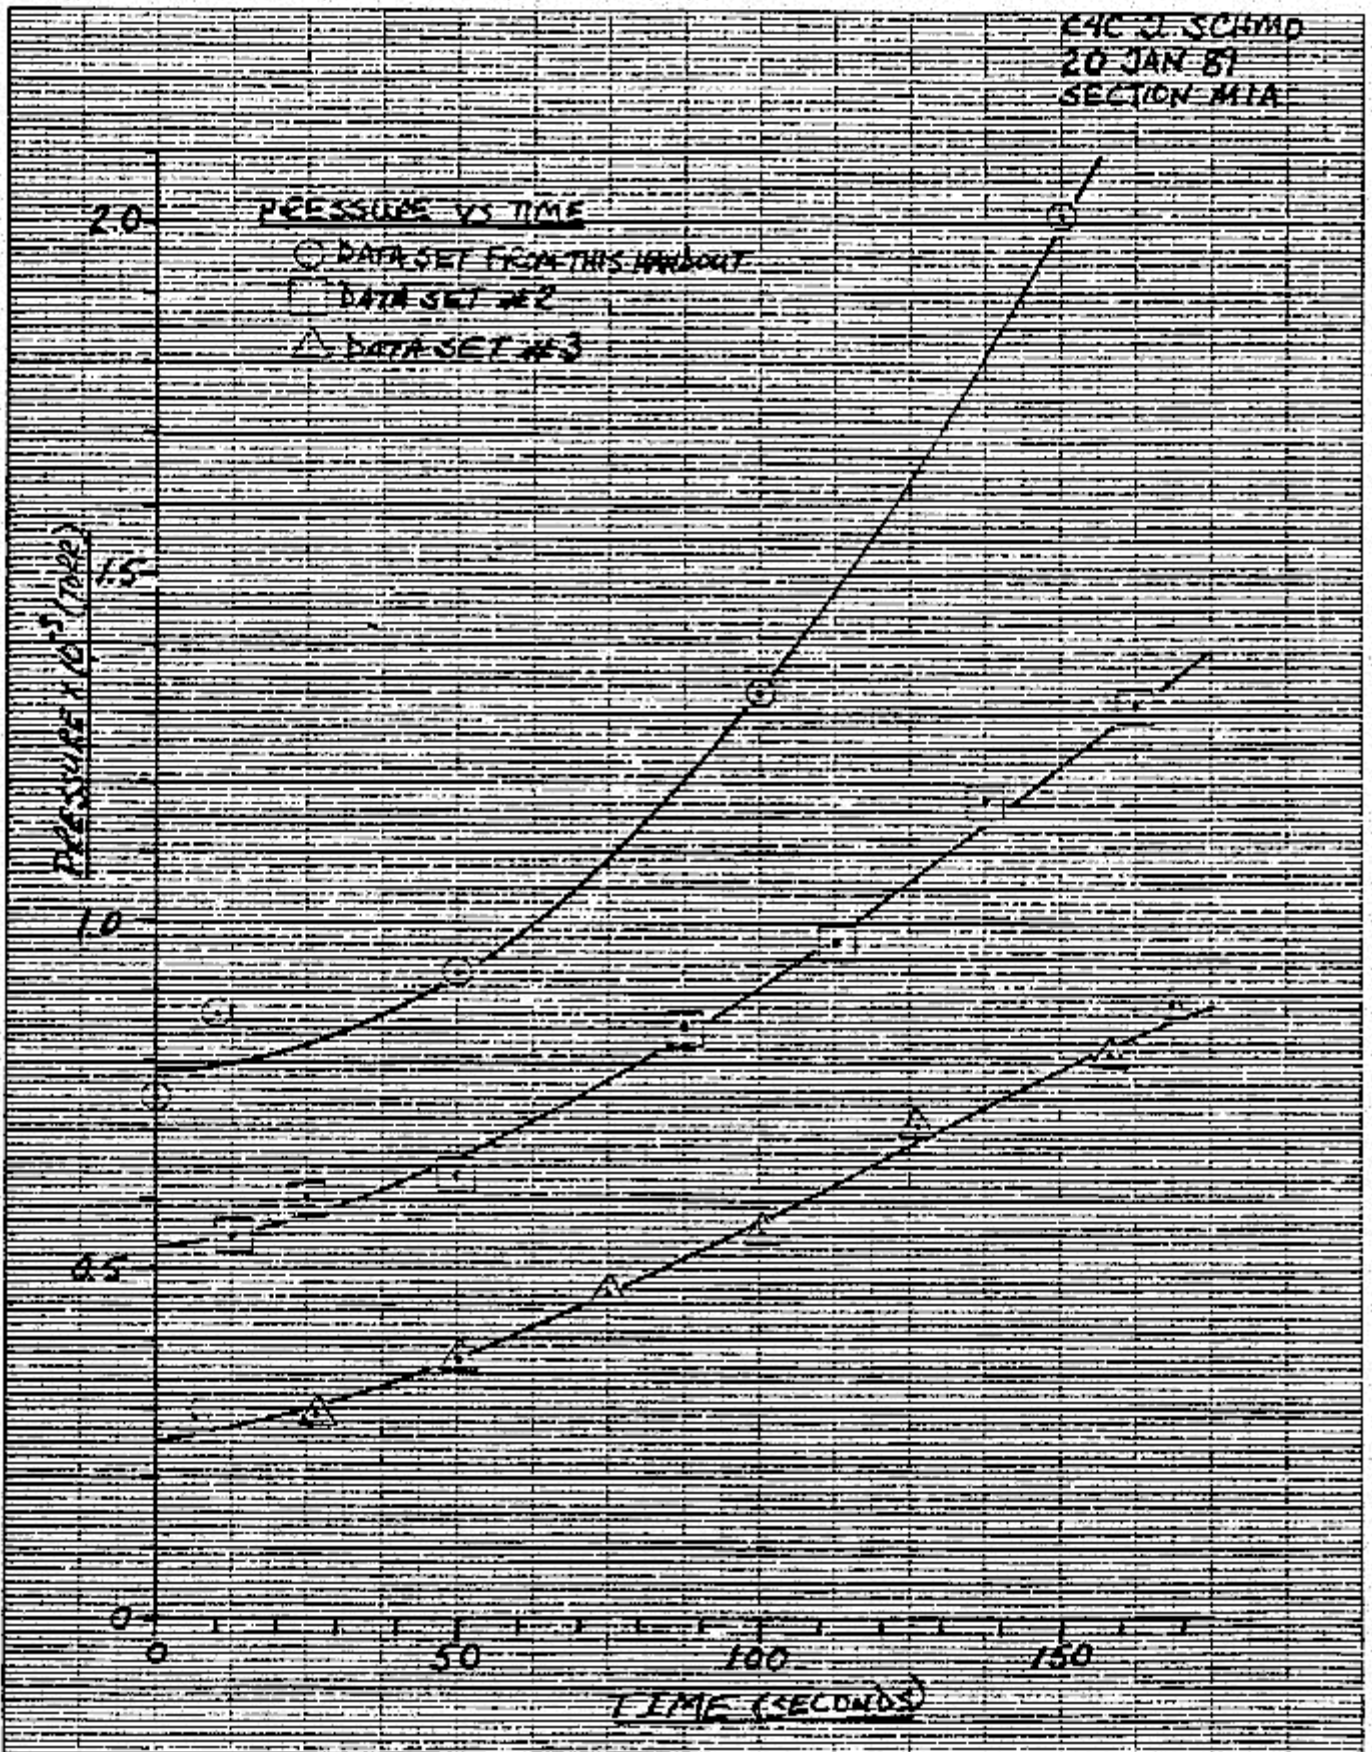

FIGURE 3
In addition, you should scale the axes so that your plot or line will fill most of the graph paper. If you can increase the magnitude of your scale (i.e., spread it out) and still fit the axis on the page, DO IT. Examine your data and identify the range of values you need to plot. For example, your values for the independent variable (X) range from 400 to 800 units, and your graph paper has 25 major divisions along the X-axis you've just drawn. The range of data (400 - 800 + 400) divided by the number of major divisions (25) is 16. Thus, you would "fill" the graph if every major division equalled 16 units. Great, but most graph paper has 10 minor divisions per major division (see Figure 3). Using 16 units for a major division is awkward. Instead, use only 20 major divisions to represent your range of 400 units. Now, the major divisions represent 20 units each, and you've filled your graph paper with graph!
It may be difficult, and it would be inconvenient, to write the number 2010 on the Y-axis. Instead, change the number to 2.010×10^3 and label the axis with single whole numbers. This has been done in Figure 3. Each whole number on the axis actually represents a much larger number. You have now chosen a different way to represent the scale on the graph.
The title block contains at least two parts: the graph title and data points legend (as seen in Figure 3). Make your title a short, clear description of the graph's contents. This makes it easier to reference in a text, as well as provide the viewer a starting knowledge of the data portrayed. Always place the title block near the top of your graph (remember, the X-axis is at the bottom).